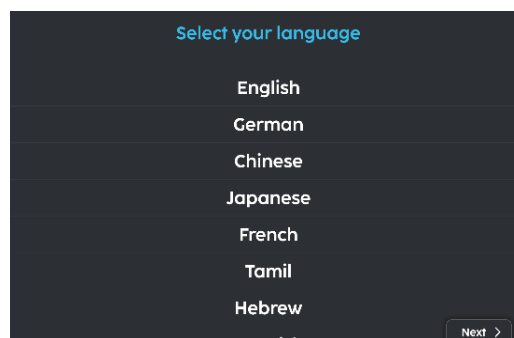

FIGURE 3-2
2. Select your preferred language **(Fig. 3-2)**.